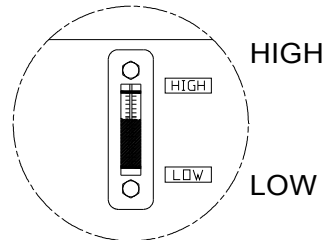

Figure. 13
- (4) If this cooler is equipped with water(oil) reservoir, check if the water(oil) level in the reservoir is normal (level should between High and Low lines). It is strictly prohibited to run the pump motor when there is no water(oil) in the reservoir. (See Figure 13)